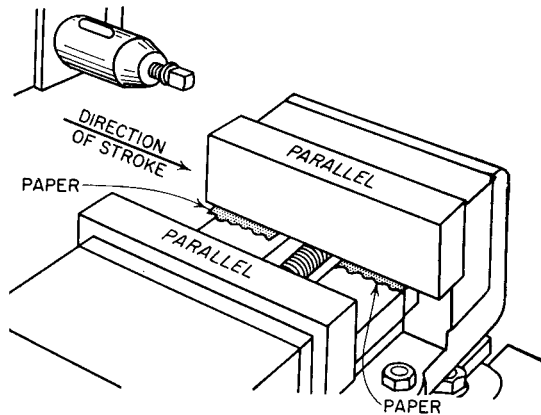

Fig. 2-30.
4. Set these parallels as shown in Fig. 2-30, one against each of the vise jaws.